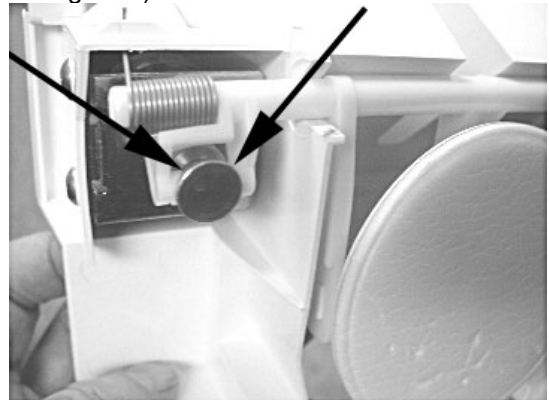

Figure 9
19. Rotate the door strike catches into the recess of the solenoid plunger (see Figure 9).